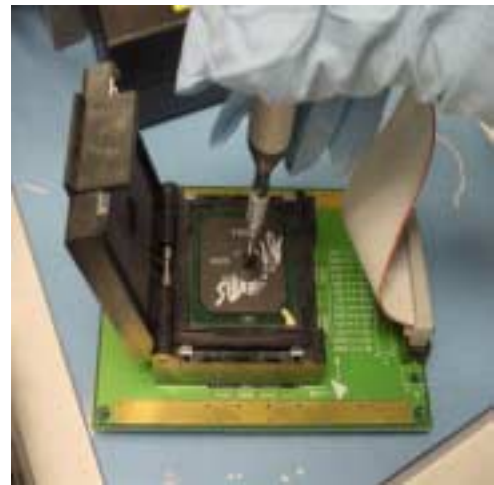

Figure 2 • Inserting the Device in the Socket
1. Carefully align the device with the socket and gently lower the device into the socket (Figure 2). Position the corner pin of the device to the pin 1 orientation mark on the socket module.